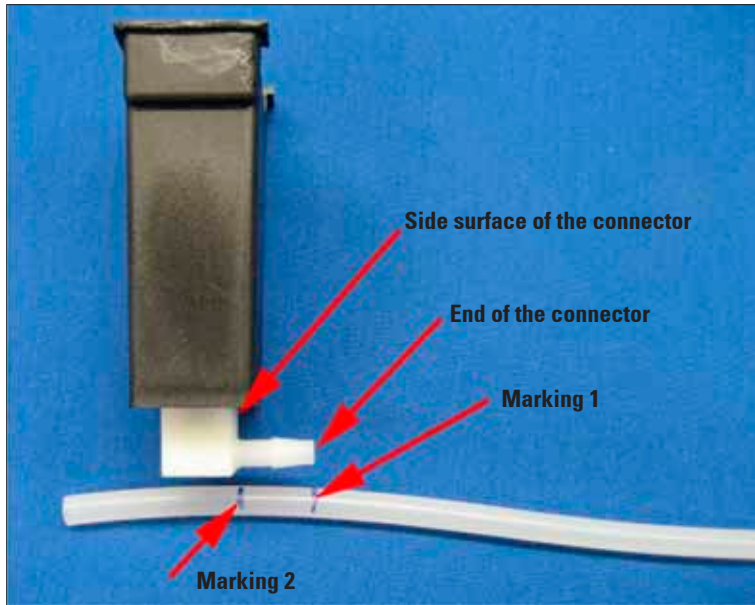

Fig. 25
- Align marking 1 to the end of the connector and make a second marking ("Marking 2") to indicate the lateral surface of the connector (Fig. 25).